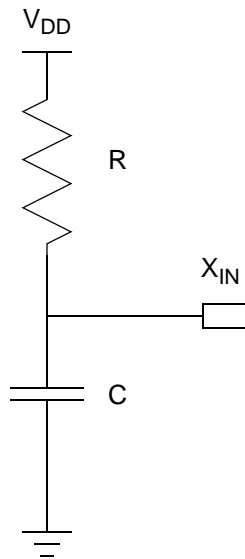

Figure 71. Connecting the On-Chip Oscillator to an External RC Network
Figure 71 displays a recommended configuration for connection with an external resistor-capacitor (RC) network.